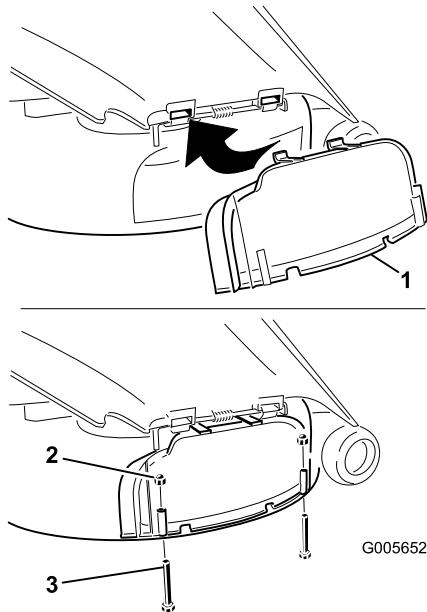

Figure 24
3. Lift the grass deflector and slide the tabs on top of the discharge cover under the grass deflector retaining rod. Rotate the discharge cover down over the opening, and onto the lower lip of the mower (Figure 24).
- 4. Secure the discharge cover to the lower lip of the mower with two bolts (1/4 x 2-1/2 inches) and two cap nuts (1/4 inch) as shown in Figure 24.